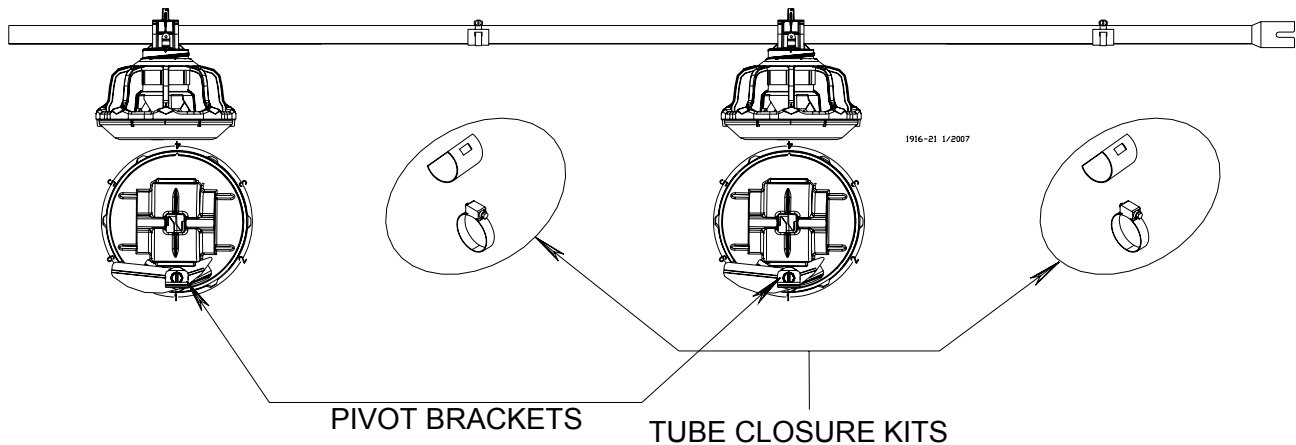

Figure 35. Assemble Feeders on tubes
3. Rotate the auger tubes so that the seam is down, this holds the Pan Assemblies in place on the tubes. See Figure 35.